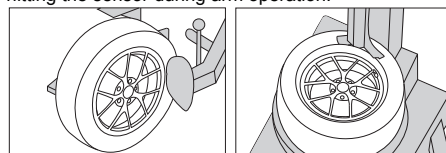

Fig 1
- (Fig 1) Loosen the tire. Fix both sides of the tire and press, and make it bulge.